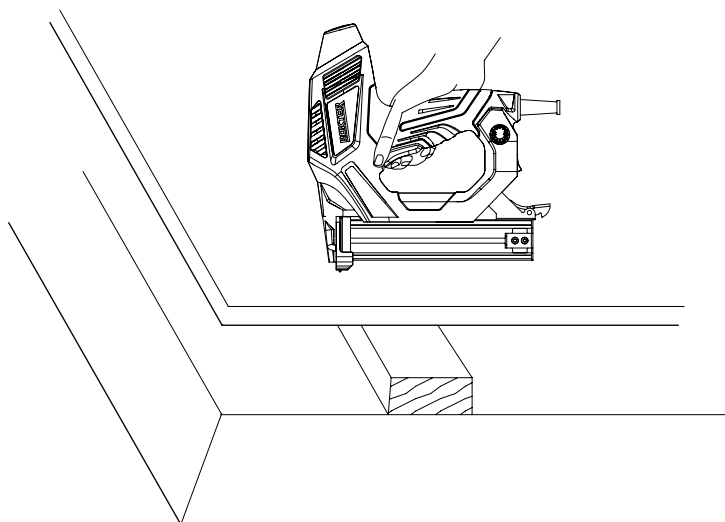

Fig. 4
4. APPLICATION TIPS (SEE FIG. 4 AND FIG. 5)
- Fastening panels (See Fig. 4)